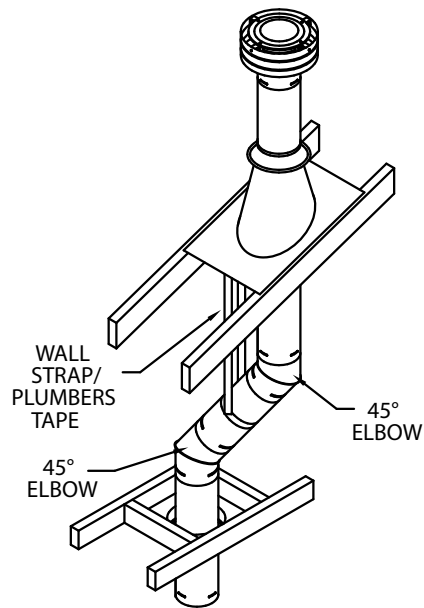

Figure 16
**(2)** If an offset is necessary in the attic to avoid obstructions, it is important to support the vent pipe in order to avoid excessive stress on the Elbows. Wall Straps or plumbers tape may be used for this purpose **(Fig. 16)**.